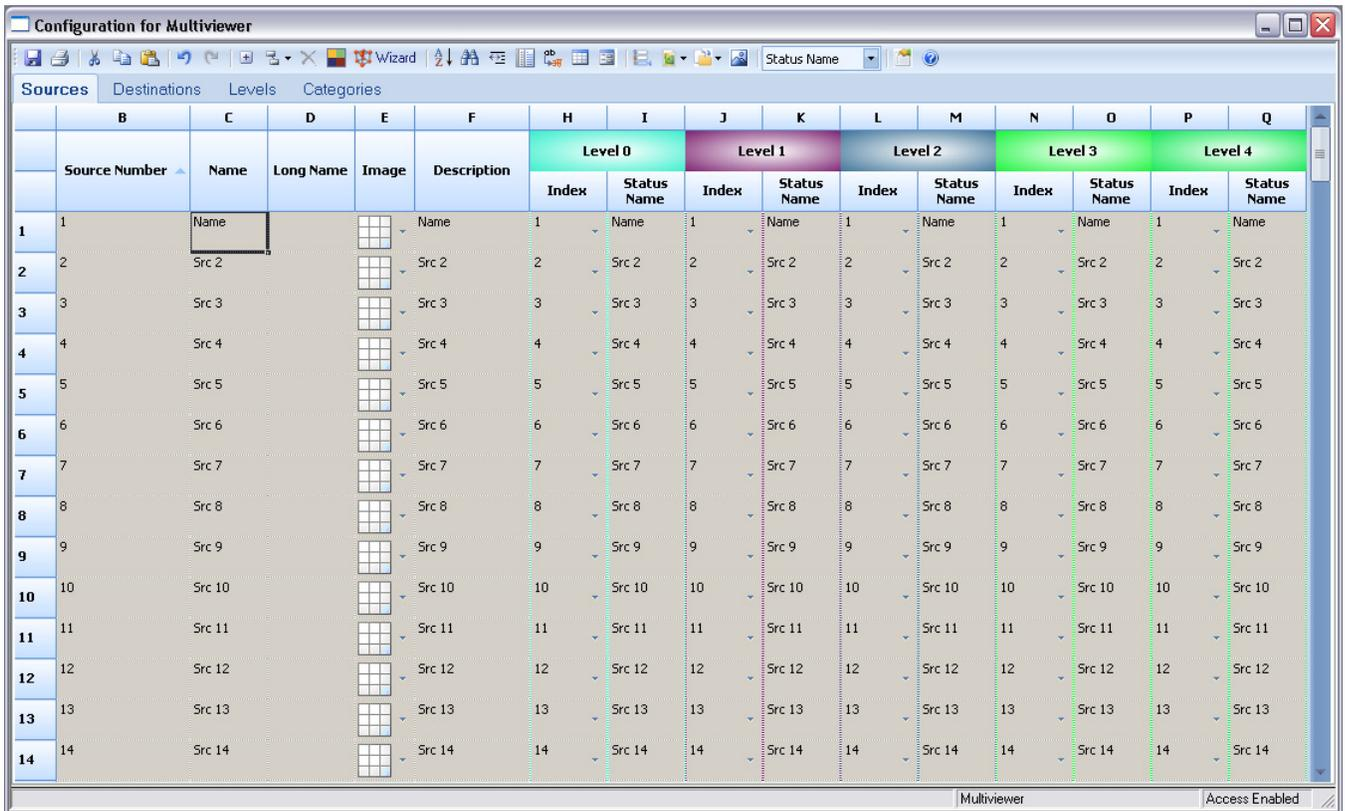

Figure 2-7. Logical ID Settings for RGB Mode with Discrete Audio Inputs
- f. In the Database Editor screen, click the Sources tab and configure the audio logical IDs as in Figure 2-7.